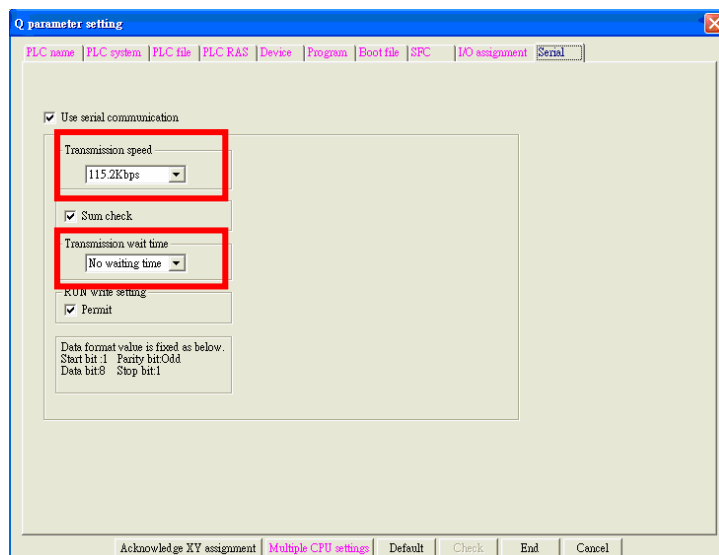

Fig. 2-1-21 Setting Parameters
- Setting of the PLC software serial parameters: configure to use serial communication, select the transmission speed, and set RUN to write mode, as shown in Figure 2-1-21.